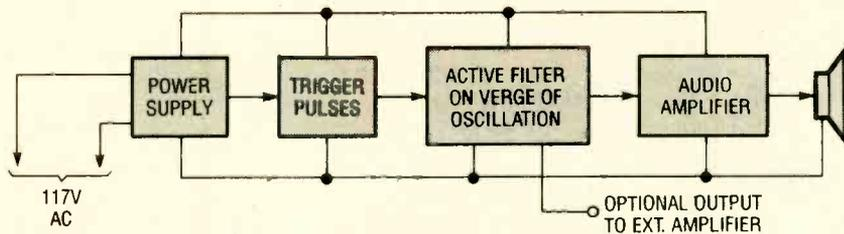

Fig. 1. This block diagram shows the various subassemblies that combine to form the Electronic Gong.
Fig. 1. As shown by this schematic diagram, the circuit consists of U1 and U2 (a 4093 quad two-input NAND Schmitt trigger and a 4040 12-stage ripple-carry counter/divider, respectively), Q1 (a TIP42 PNP silicon power transistor), BZ1 (the chime module), and a handful of support components.
**Circuit Operation.** Figure 1 shows a block diagram of the Electronic Gong, which is comprised of a power supply, an oscillator, an active filter, and an audio-output amplifier.